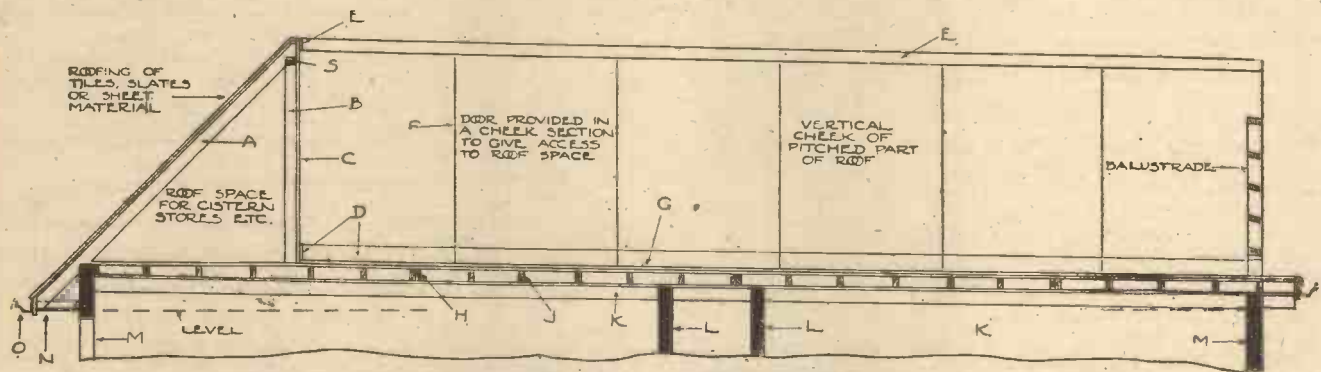

FIG 110 COMBINED PITCHED AND FLAT ROOF: SECTION FROM FRONT TO BACK EXTERNAL WALLS
THESE roofs, such as sketched in the first instalment of this series, are not only unique in house roof construction, but have combined aesthetic, structural, and utilitarian advantages that are well worth the attention of architects and structural designers. The pitched or sloping part can be so proportioned and covered as to provide a reasonable expanse of the traditional pitched roof which is liked by so many persons, and, by the limitation of such expanse, avoids that too top-heavy appearance associated with the ordinary type of tiled or slated roof. As an instance, the section of roof shown by Fig. 110 rises only about 6ft. above the top of the uppermost storey and yet with the overhanging eaves gives an expanse of pitched roof about 9ft. from eaves to top; with the ordinary pitched roof with an angle of about 40 degrees the ridge would be about 14ft. above the top of the storey. Structurally the combined
pitched and flat roof is exceptionally simple, sound and strong, is a little more expensive than an all-flat roof, but is probably less costly than the traditional type of pitched roof with its large area of tiling or slating, and battens or boarding, rafters, purlins, struts, ceiling joists, binders, hangers and high chimney stacks, and gabled flank wall (if any) and gabled party wall (if the house is semi-detached). The roof as shown by Fig. 110 exerts practically no outward thrust on the external wall, whereas with the ordinary pitched roof the thrust is really great unless it is designed, framed, jointed and constructed with the utmost care—a care which was only very seldom exercised in pre-war house building. The comparatively small expanse of pitched roof will cause but little stresses on the building due to wind
Figs. 110 and 111.—(1) Hip unit. (2) Standard width pitched roof unit. (3) Standard width and length flat roof unit. (4) Flat roof filling-in unit. A—Rafters. B—Framing. C—Covering to vertical cheek. D—Skirting. E—Flashing. F—Joint in vertical cheek. G—Flat roofing. H—Double members at joint in flat roof units. J—Single member. K—Beam. L—Internal load-bearing partition. M—External pre-built wall. N—Overhanging eaves. O—Gutter. P—Fascia. Q—Edge or binding board. R—Double members at joint in roof unit. S—Plan of vertical cheek. T—Edge or binding board of roof unit.
An examination of Figs. 110 and 111 will indicate that the flat roof portion and the floor and ceiling under the pitched roofs generally follow the principles and details of pre-built flat roofs with either steel, timber or built-up structural plywood beams and timber framed panelled units. The pitched roofs are, in effect, superimposed on the flat roof and act for the purposes previously described.
The eaves construction as Fig. 110 is simple and is set economically to avoid any waste in the height of the building at the eaves; and, there is a good overhang.